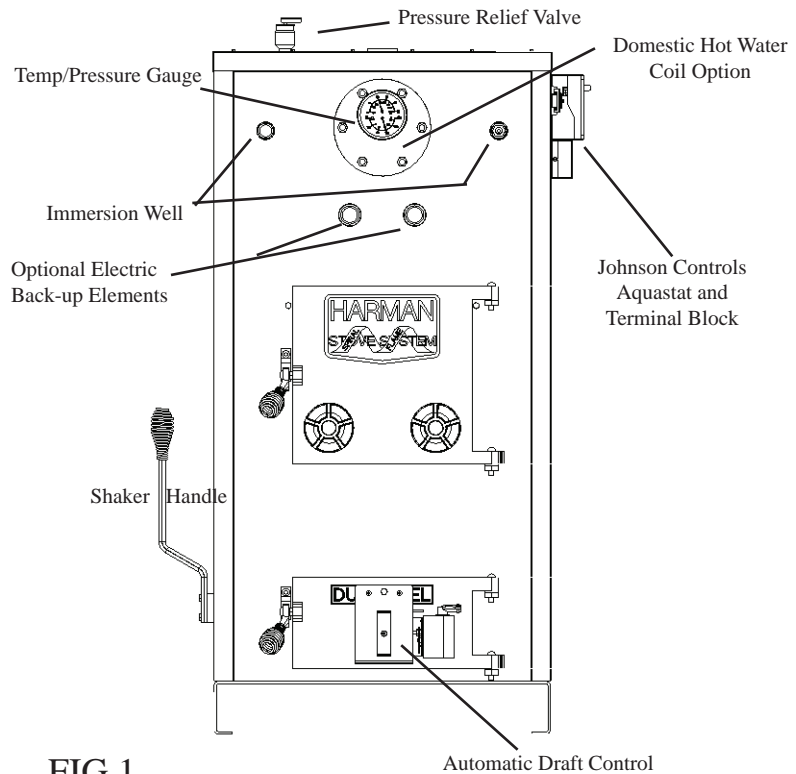

FIG.1
Install the Temperature/Pressure Gauge into the pipe stub in the center of the round plate on the front of the boiler (FIG. 1)
(See optional items, page 7) Lay the din rail on a flat surface, with the flat side down. Secure one end clamp, on the left side. Slide the A350 controller onto the rail from right to left until it is against the end clamp. Slide the Y350 onto the rail and guide the plug-in connector, joining it to the A350. Next, install the S350, again, guiding the plug-in connector carefully. Install the other end clamp to the right side of the din rail. Remove the covers from all three controls by loosening four screws each. Install the terminal box to the controls using (3) chase nipples and locknuts, supplied with the kit. Using the four holes in the terminal box, mount the terminal box and controls to the boiler sheet metal side as shown in Fig.1. Using (2) #8-32 nuts, install the terminal block onto the studs located inside the terminal box.
If electric back-up is desired, install now. There will be two additional control boxes to add to your aquastat, which will require the use of a longer din rail. The two heating elements will install into the front of the boiler as shown in Fig. 1